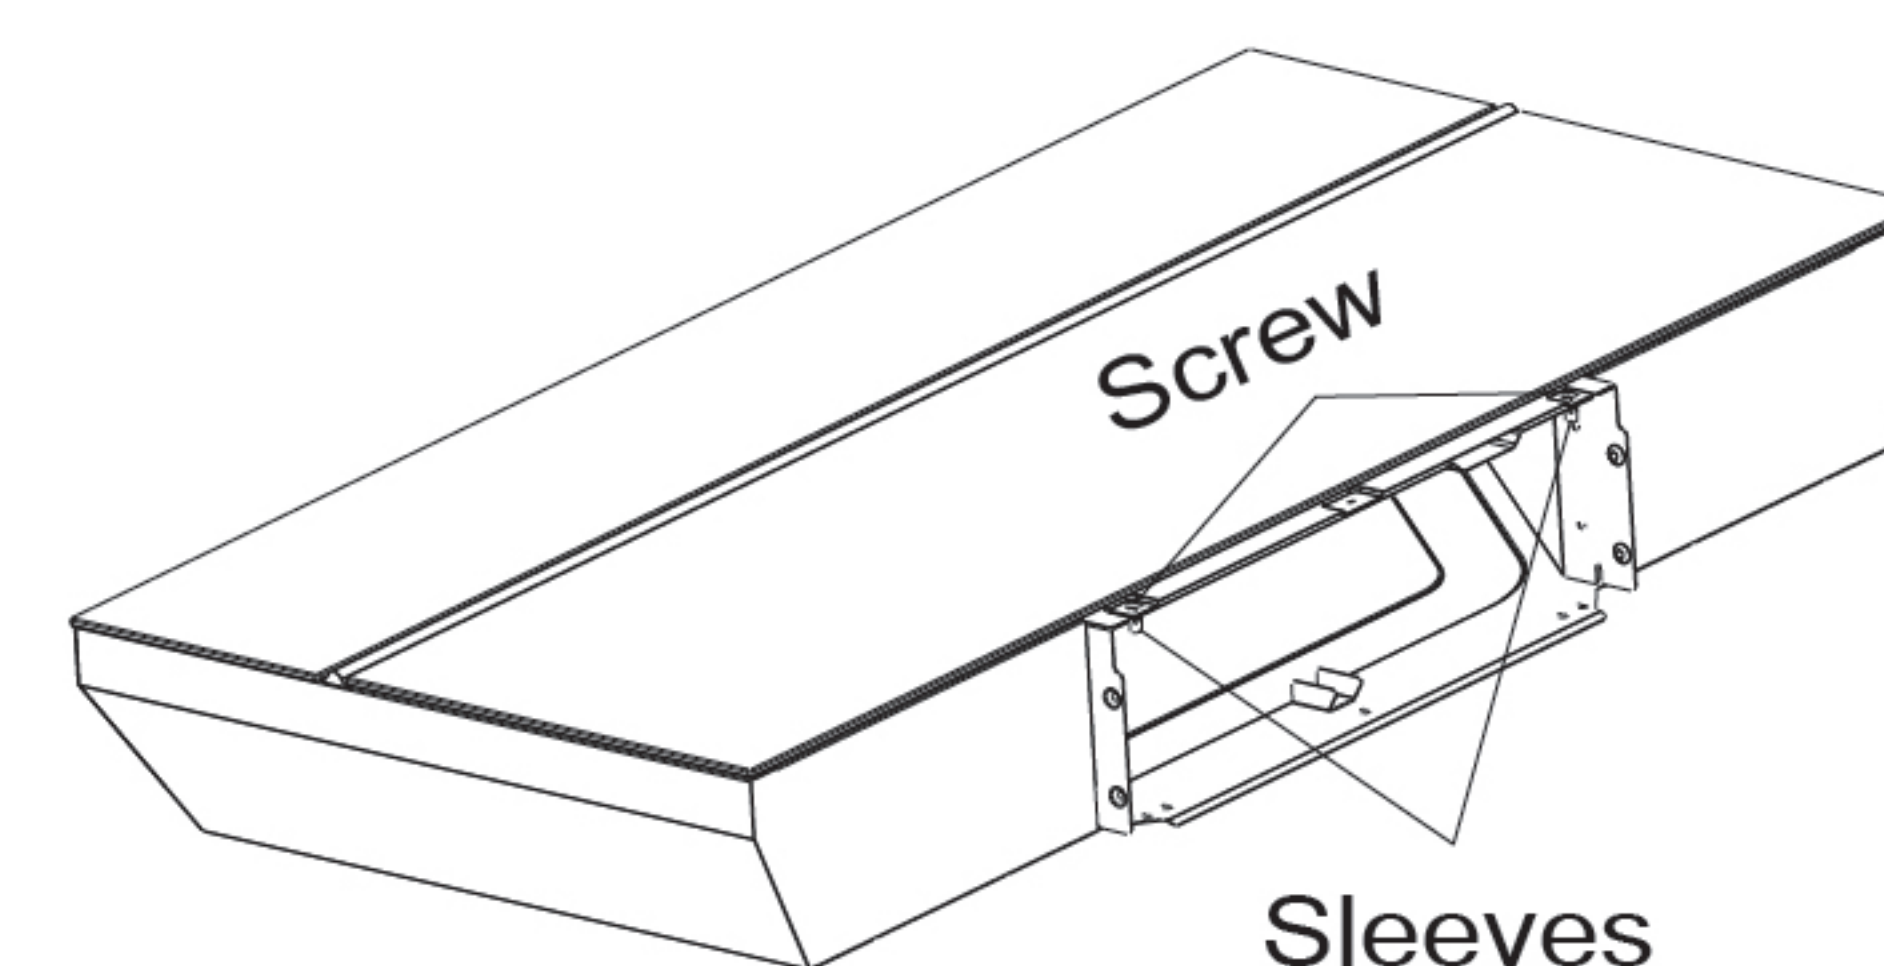

Fig.12
3. Place the chamber of the range hood horizontally; remove 2 top screws and sleeves under these screws (as shown in Fig. 12); remove the connector lug of the connection wire stuck inside the chamber and place it on the outside of the chamber assembly.